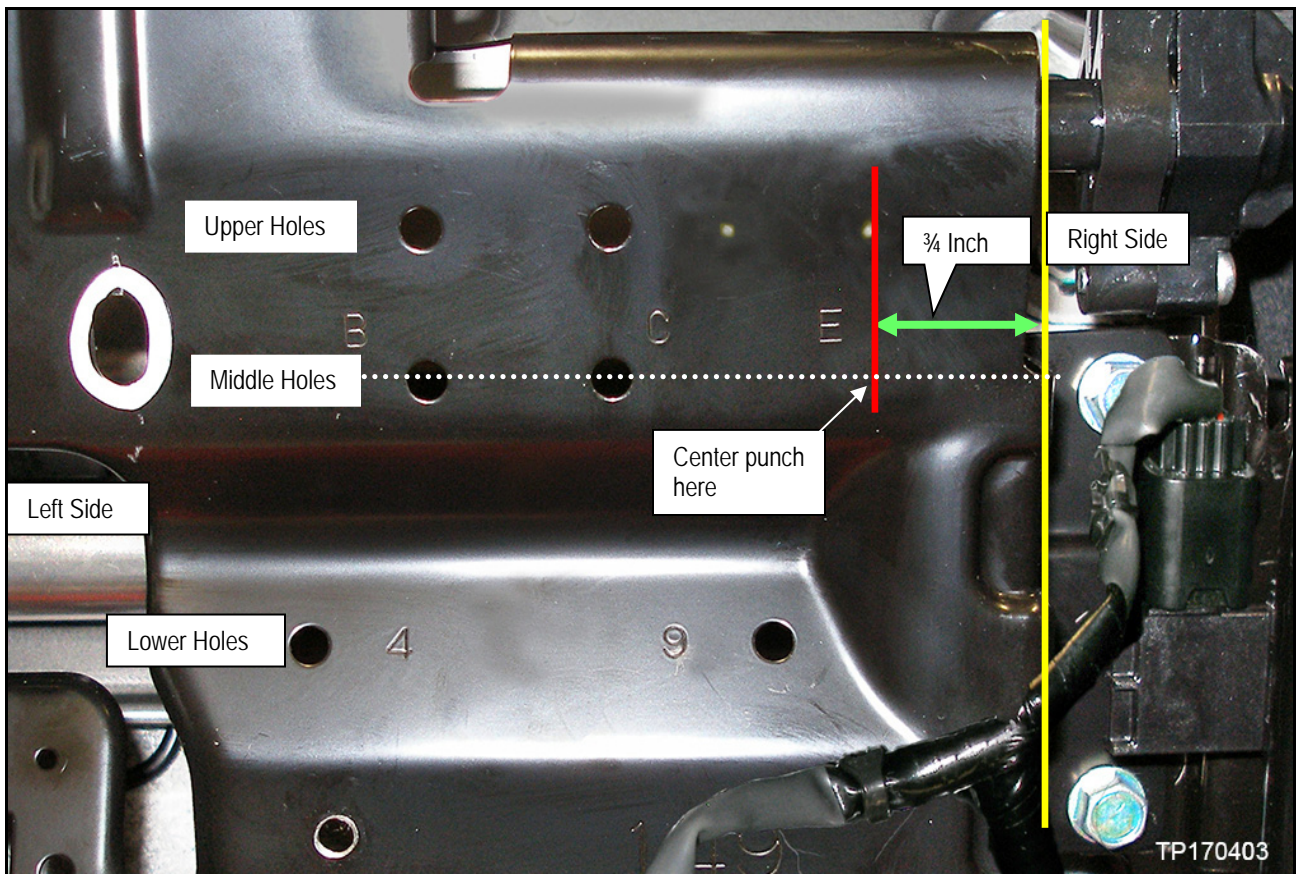

Figure 6
20. Mark the locations for drilling 1 new middle hole (see Figure 6).